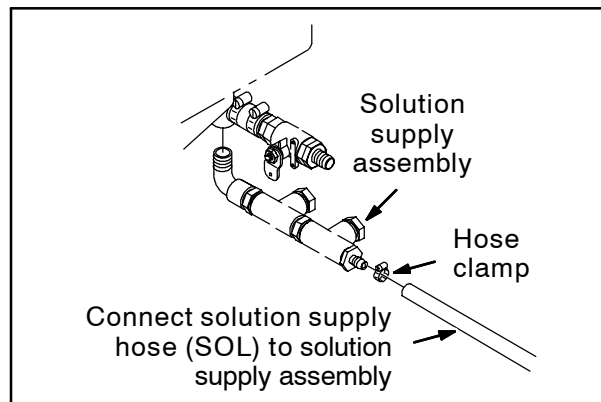

FIG. 10
12. Route the hose labeled SOL to the solution supply assembly and use a hose clamp to secure the hose to the solution supply assembly. Refer to Fig. 10.